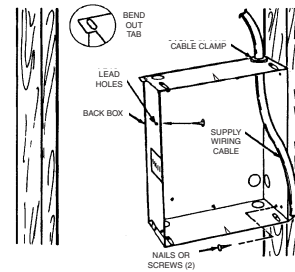

Figure 1
1. Determine which side of the back box is to be mounted against a stud and bend the tabs at the rear corners out 90 degrees so that the back box will be square with the stud after installation. (See Figure 1).
3. Position back box against side of studs and secure using nails or screws as shown in Figure 1.
**NOTE:** Lead holes for a #8 sheet metal screw have been provided in the sides of the back box. After the finished wall or ceiling has been put up, drive a # 8 sheet metal screw (recommended 1" long) through the side of the box not mounted to the stud. This will prevent the back box from pulling out when installing the heater assembly. (See Figure 1)